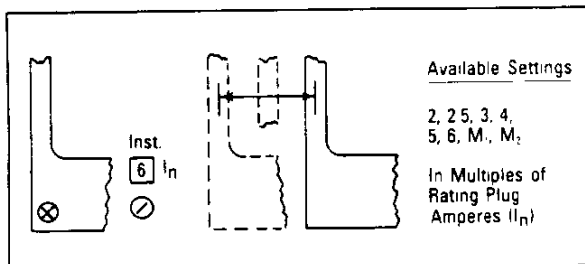

Fig. 6.5 Instantaneous Current Pickup Settings
As illustrated in Fig. 6.5, eight (8) available settings range from 2 to 6 (I_N) with two variable settings M1 and M2. These variable settings depend upon the type of circuit breaker in which the trip unit is installed. Specific information on these settings is given in the supplemental instruction leaflet referenced in Sections 9.1 and 9.2 that is supplied with the circuit breaker. Specific information is also shown on the rating plug and on the applicable Time-Current curve.